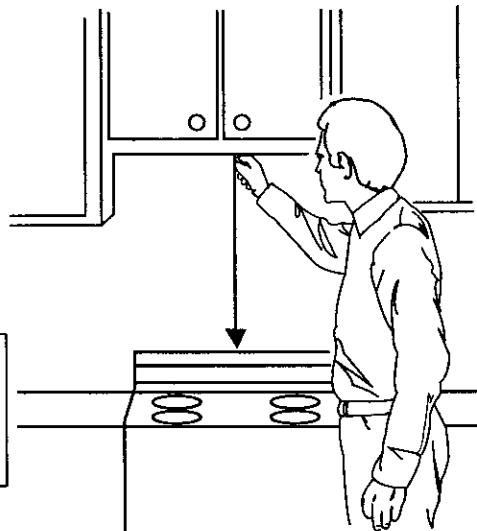

Figure 21
1. Using a plumb line and (metal) measuring tape, find and mark the vertical center line on the back wall, as in Figure 21.
NOTE: Be sure the minimum width is 30 inches and the distance from the top of the wall template to the range or counter top is at least 30 inches. See Figure 21.